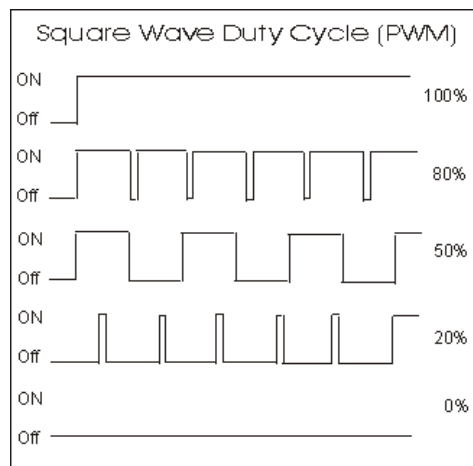

Figure 7. PWM wave forms with different duty cycles.
An alternative method for controlling the speed of a motor is achieved by applying a pulse width modulated (PWM) signal to the motor. A PWM signal is a square wave, where in common practice the frequency of the wave is fixed and duty cycle (DC) of the signal is changed in order to change. Some sample PWM signals with various DC values are illustrated in figure 7.